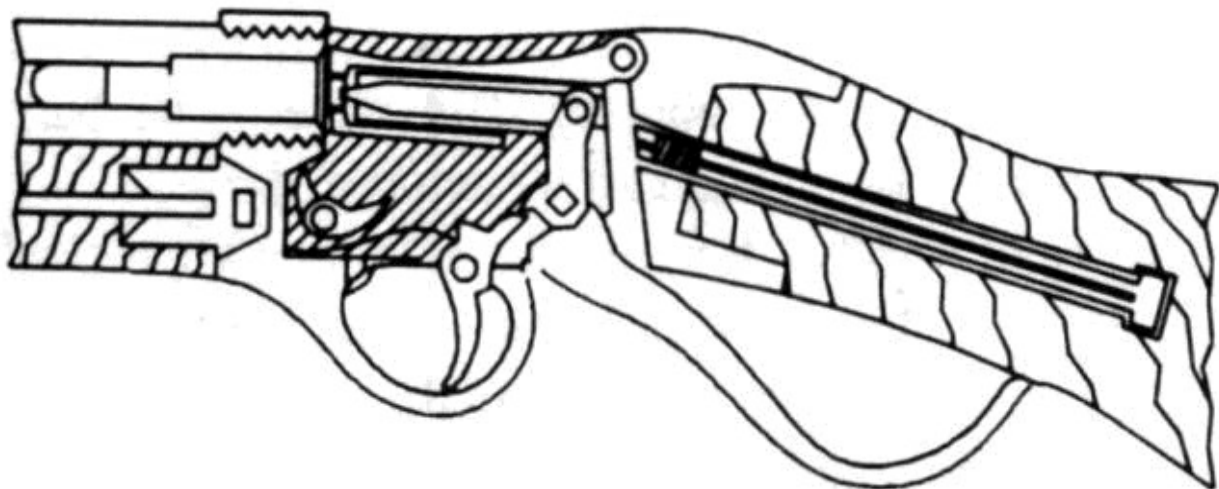

Figure 7-3: The tipping-block system employs a block hinged at the rear which, when activated, lowers the front edge and exposes the chamber.
*Tipping-block system* : The tipping-block system is used in the famous Martini-Henry action and employs a block hinged at the rear which, when activated by a lever, lowers the front edge and exposes the chamber (Fig. 7-3). A lever arrangement in the Martini action also cocks a concealed hammer when the action is opened.